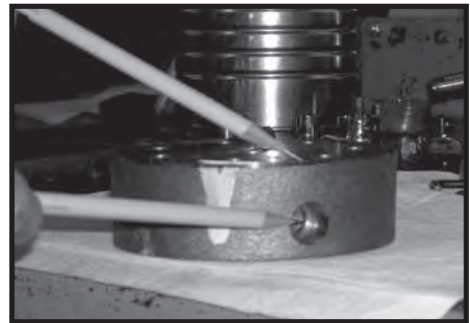

Figure 8
6. Thoroughly wash end cover (2) in proper solvent and blow dry. Be sure the end cover valve apertures, including the internal orifice plug, are free of contamination. Inspect end cover for cracks and the bolt head recesses for good bolt head sealing surfaces. Replace end cover as necessary. SEE FIGURE 8.
**NOTE: A polished pattern (not scratches) on the cover from rotation of the commutator (5) is normal. Discoloration would indicate excess fluid temperature, thermal shock, or excess speed and require system investigation for cause and close inspection of end cover, commutator, manifold, and rotor set.**